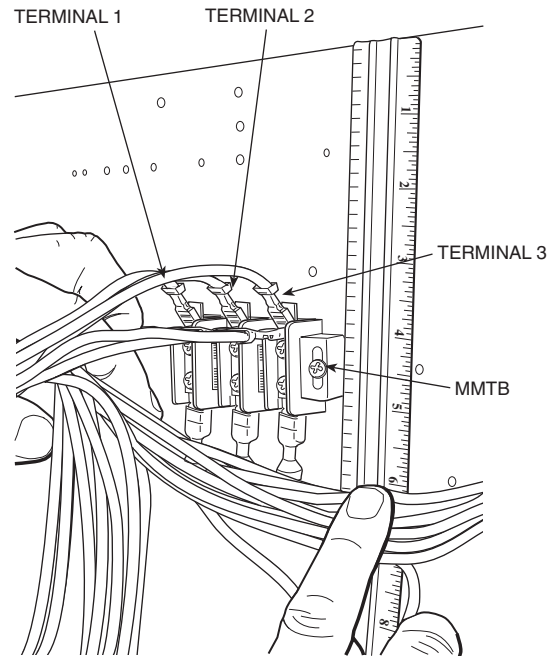

Fig. 3 — Terminal Block Mounting
2. Mount supplied Motormaster Terminal Block (MMTB) approximately 4½ in. from control box top as shown in Fig. 3.
3. Remove the 2 blue “piggy-back” wires from fuse 3 and connect to the number 3 terminal on the terminal block. Refer to Fig. 3 and 4.
2. Mount accessory terminal block (MMTB) approximately 4¹/₂ in. from control box top as shown in Fig. 3.
3. Remove Outdoor-Fan Contactor (OFC) wires from pins 11, 12 and 13 and attach to terminals 1, 2 and 3 respectively on MMTB. See Fig. 3.